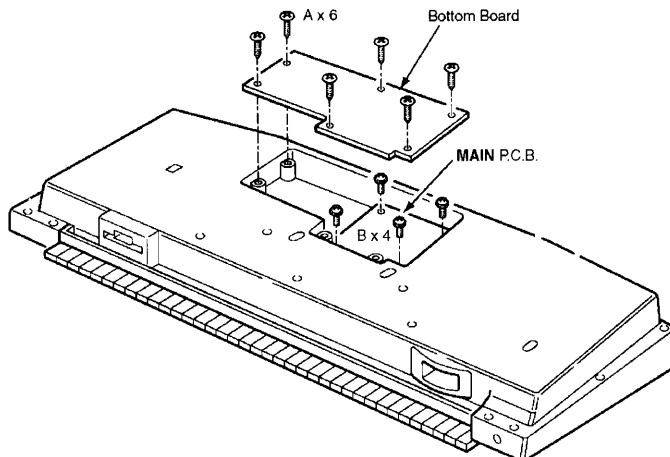

Figure-8
1. Remove the bottom board mounting screws (A 6 pcs.) as shown in Figure-8.